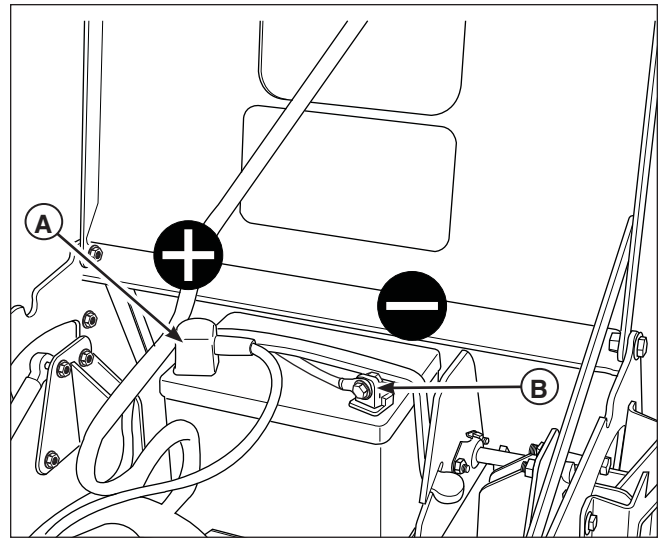

Figure 45. Battery Compartment
1. Disconnect the cables from the battery, negative (black) cable first (B, Figure 45).
3. Reinstall the battery and reattach the battery cables, positive (red) cable first (A).